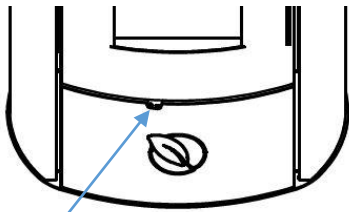

Figure 14
- Set the air regulator to ensure simultaneous supply of primary and secondary air; the end position is to the left (see image below, figure 14).